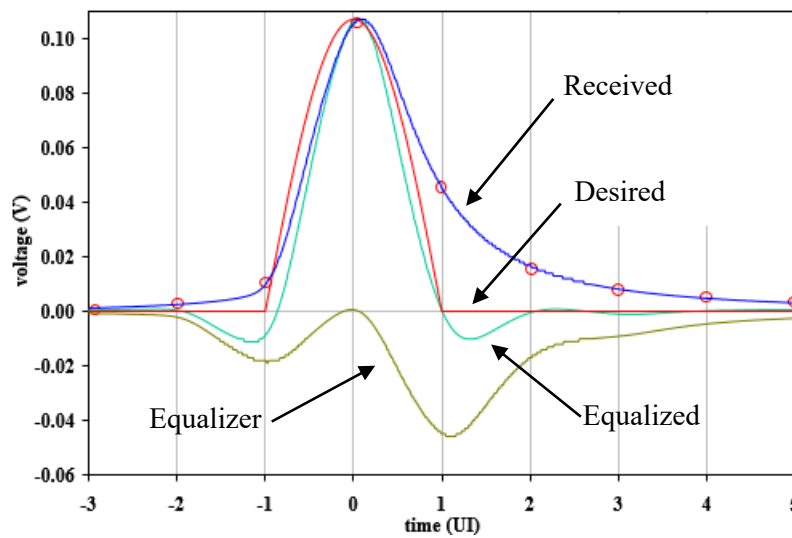

Figure 4.2
- (d) Figure 4.2 shows a typical operation of an equalizer in the time domain. From the figure, explain the functionality of the equalizer and what it intends to do in terms of ISI?
- (e) How many taps can we utilize in Figure 4.2 to make an effective equalizer and how many are typically used in real life applications?